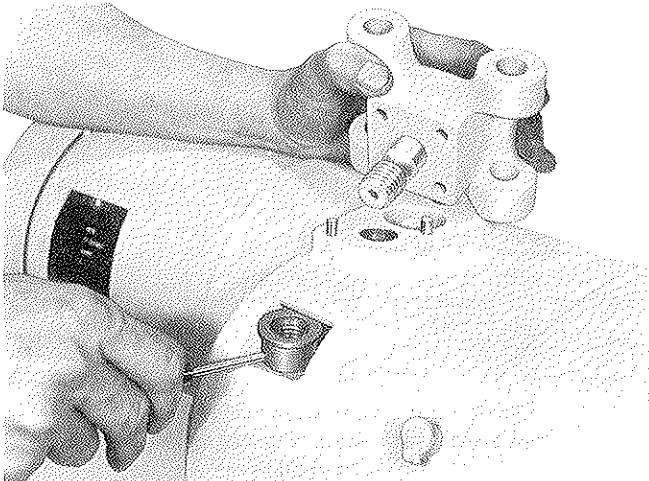

Figure 7-28. Removing Suspension Lug
(2) On 1/8 thru 1 ton models (Models 325079-1 and up) drive grooved pin from the round nut inside the hoist frame. Hold hook nut from rotating with drift punch thru access hole in side of hoist frame. Unscrew suspension stud assembly by wrenching hex on top of suspension lug (see figure 7-28).
(3) On 2 ton models, remove three hex socket head screws securing the two lock plates to block at top of frame and pull out locks. Remove suspension lug, using an extra thin 1-1/4" open end wrench to unscrew suspension bushing from block. Instructions for removing block from frame are given in paragraph b., (2), above.